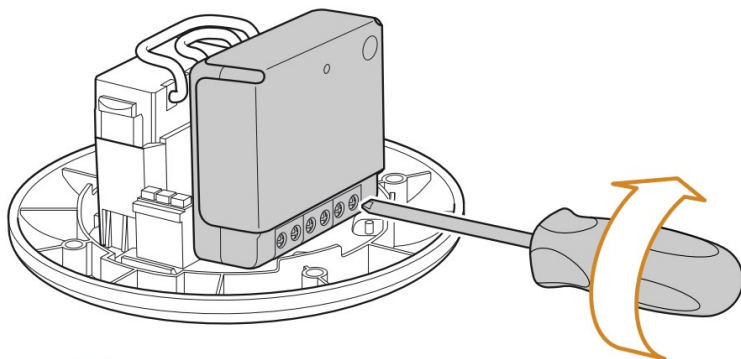

Figure 2
3. Screw in the 6 screws of the relay switch, see **figure 2**.